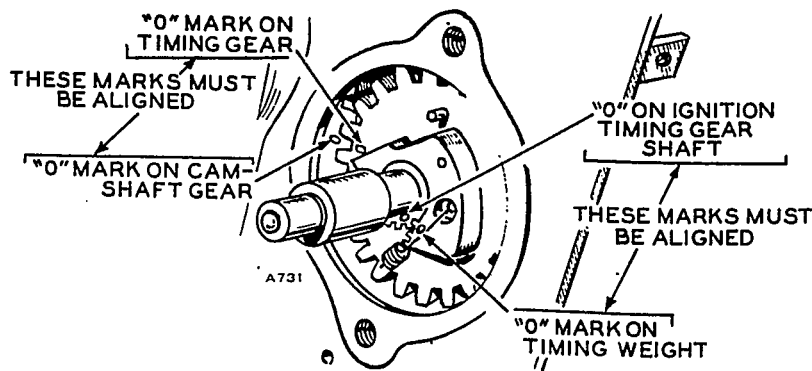

FIGURE 39. ALIGNING TIMING MARKS
1. Install springs on weight assemblies. Install cam on gear shaft, being sure to align timing marks (Figure 39), and install cam spring. Weights should snap outward between 1000 and 1075 rpm. If necessary, adjust by lightly bending one or both spring anchor pins toward center of gear.